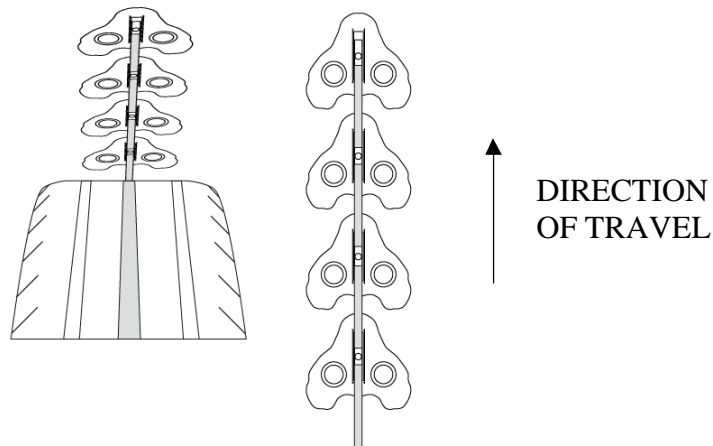

Fig. 2
1. Make sure that the continuous groove in the tyre tread is free from stones and other debris that could impede the correct fitting of MITA. You can use the screwdriver provided (F) to help dislodge any debris present.
2. Place the assembled chain on the tyre, with arrow shaped plates pointing in the direction of travel and position it so that the connectors sit in the continuous groove of the tyre (Fig. 2).